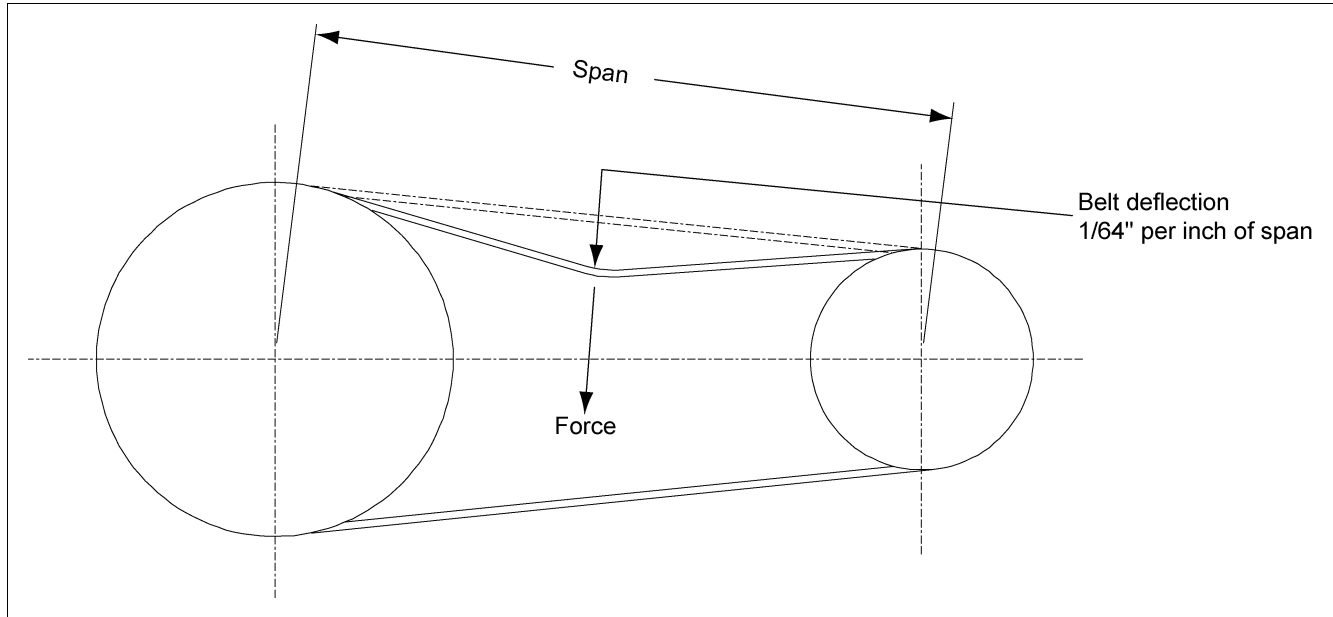

Figure 6U
Adjustment of V-belt tension is achieved by tightening the hex nuts located on the four (4) jack screws of the motor base. Adjust motor base equally at all four (4) jack screws to maintain shaft alignment. Belts are designed to fit loosely upon installation. When the V-belt tension is correct, tighten the top nut on the jack screws to lock the motor base in position. Proper tension is  $1/64$ " of deflection per one inch (1") of sheave centers on one side of belt, centered between sheaves. (See Figure 6U.)